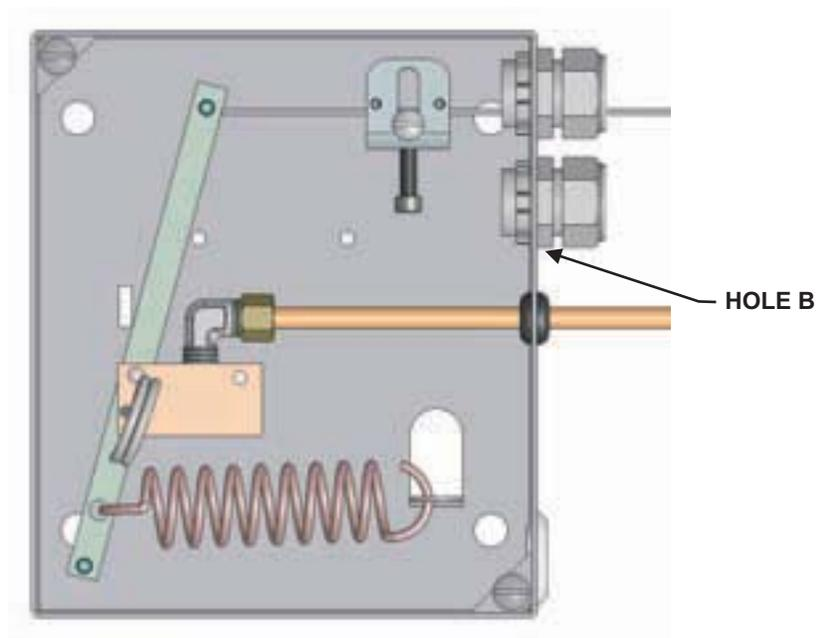

Figure 4-51. Dual SPDT Microswitch Installation
2. Connect 1/2-inch (13 mm) EMT to hole "B" on the side of the A+ Control Box (Figure 4-51).